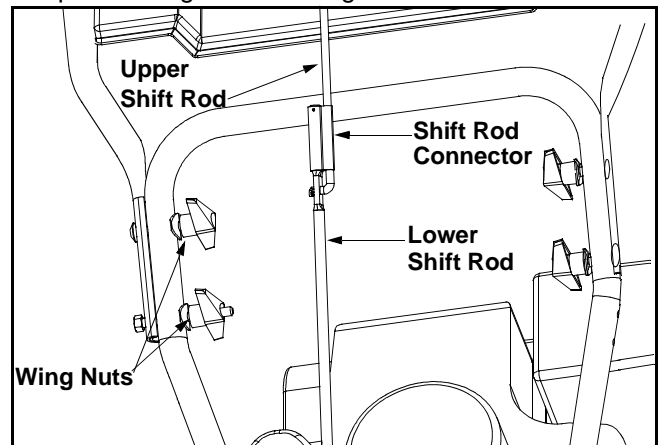

Figure 3
- Secure the upper handle and lower handle with the two plastic wing nuts, cupped washers and carriage bolts previously removed and tighten the upper two plastic wing nuts. See Figure 3.
- Slide the shift rod connector down over the end of the lower shift rod. Tap the connector until it **locks** over the lower shift rod. See Figure 3.